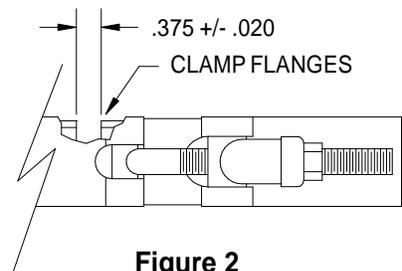

Figure 2
**\*IMPORTANT:** DO NOT OVERTIGHTEN FLOW METER BAND CLAMP. TIGHTEN BAND CLAMP UNTIL CLAMP FLANGES ARE .375 APART. SEE FIGURE 2. OVERTIGHTENING MAY DAMAGE FLOW METER.